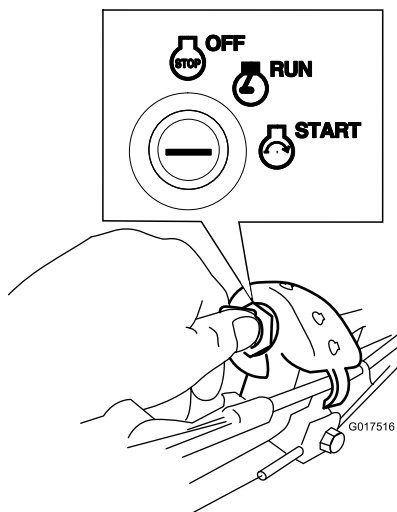

Figure 17
Turn and hold the ignition key to the START position (Figure 17); when the engine starts, release the ignition key.
1. Turn the ignition key to the RUN position (Figure 17).